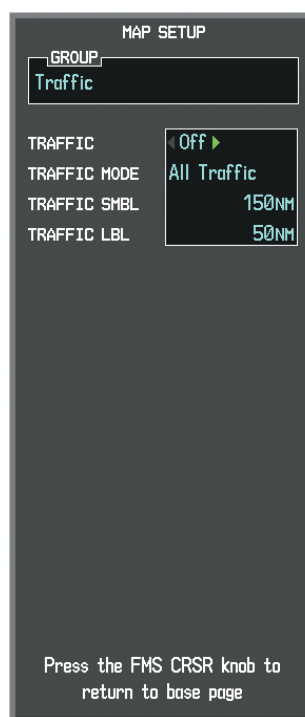

Figure 6-163 Navigation Map Page Setup Menu, Traffic Group
- 5) Turn the large **FMS** Knob or press the **ENT** Key to scroll through product selections (Figure 6-163).